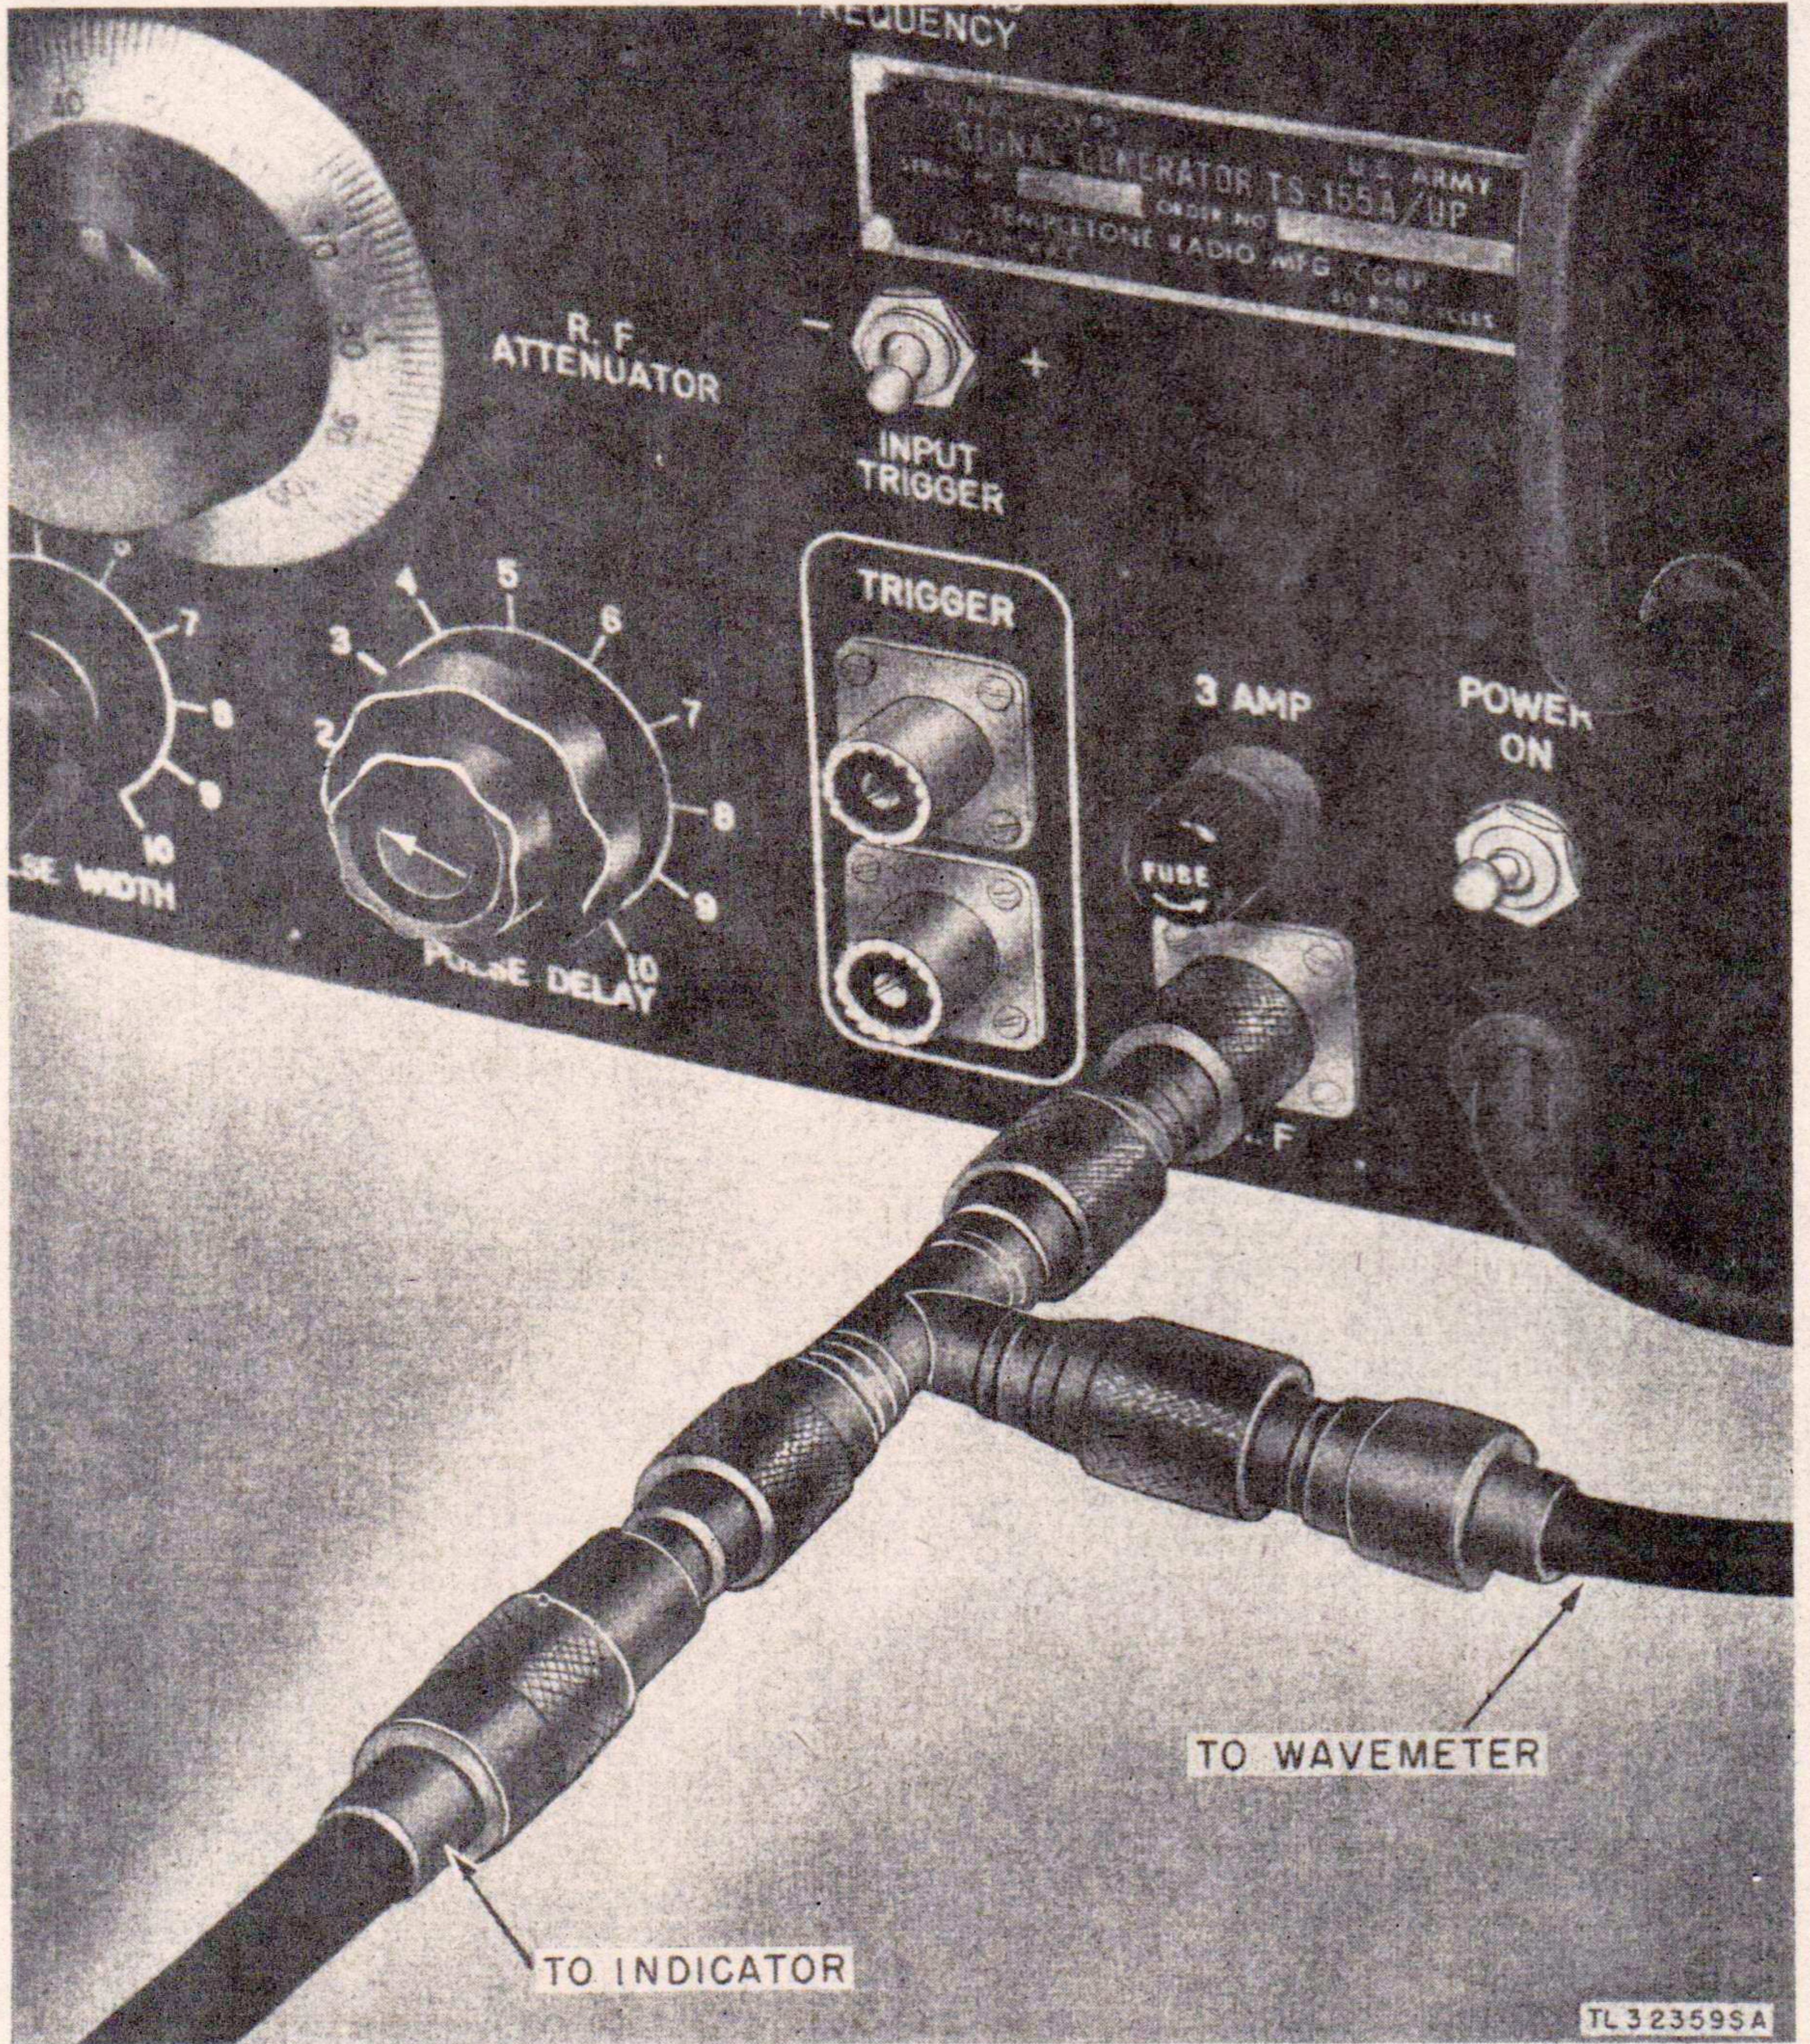

Figure 33. Adapter assembly connected to signal generator.
**d. Installation of Adapter Assembly.** (Added.) Connect the adapter assembly as indicated in figures 33 and 34.
(1) Connect the free end of Cord CG-71/MPM (trigger cable) to the input signal terminals of the test oscilloscope (or other indicator).
(2) Connect the free end of Cord CG-70/MPM (antenna cable) to the frequency-measuring device being used. For example: